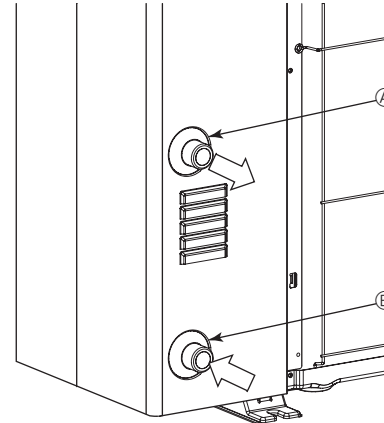

Fig. 5-1
5.1. Water piping connection (Fig. 5-1)
- Inlet and outlet pipes position is shown on the Fig. 5-1.
[Fig. 5-1]